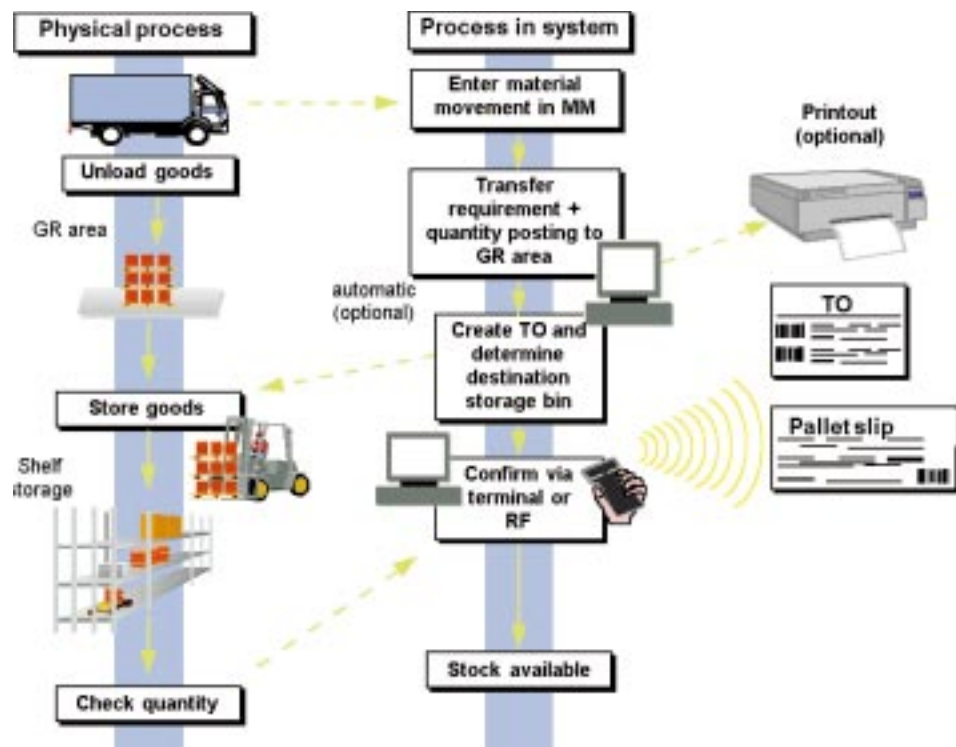

Fig. 9-7: Processing Goods Receipts
Figure 9-7 shows a possible scenario for an inbound movement (goods receipt) with a transfer order (TO).